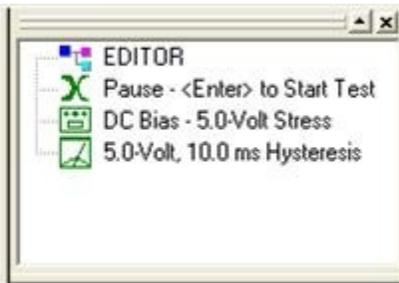
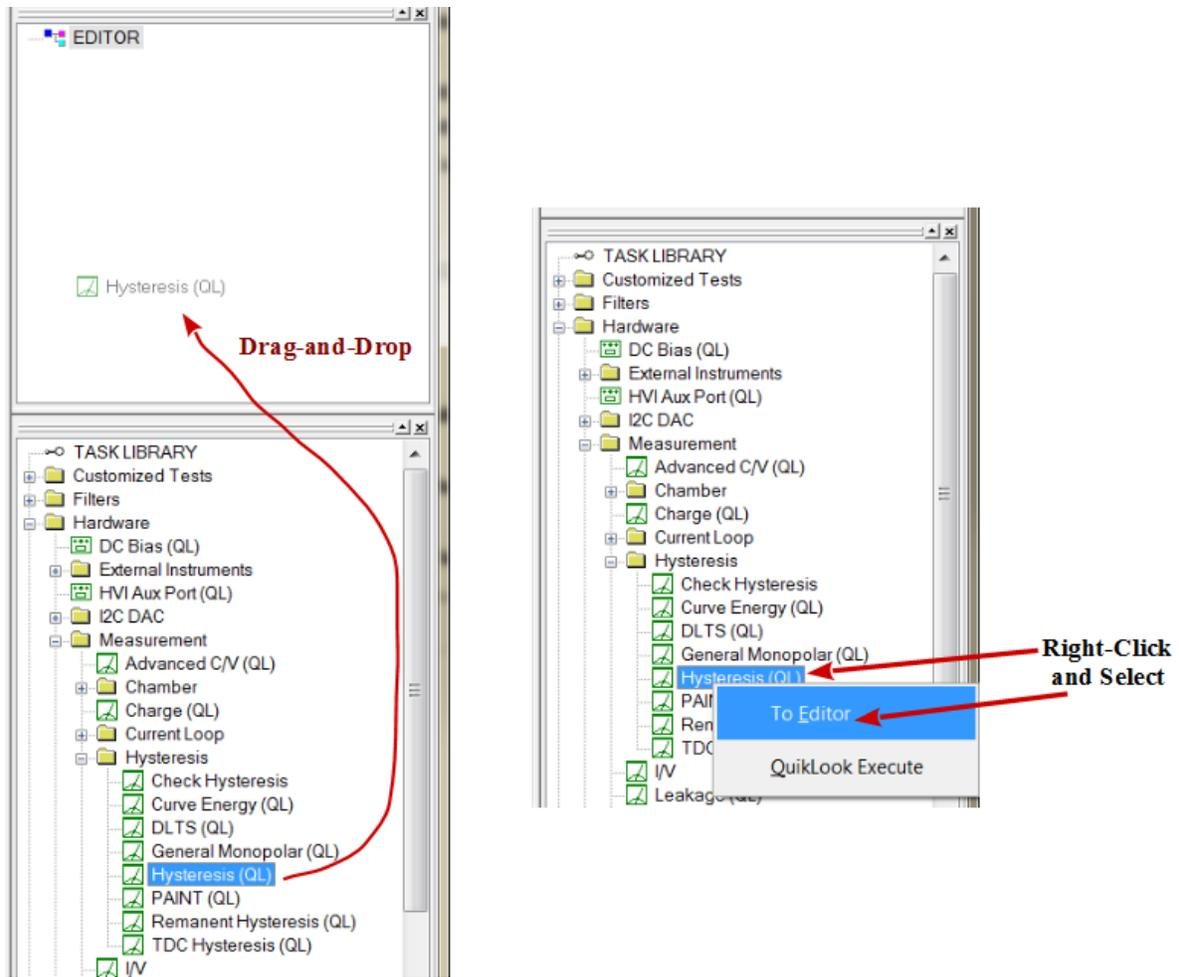

Figure 1 – EDITOR Window with a Partially Constructed Experiment or Test Definition Consisting of a Pause Task, a DC Bias Task and a Hysteresis Task.
Figure 2 – Task from Library to EDITOR.
By default, the EDITOR window (**Figure 1**) is located at the upper right of the Vision program screen. When the program starts, this window will be empty if the " Tools->Reload Editor Test Definition on Startup" menu option is unchecked. Otherwise, any Test Definition in the EDITOR when the program was last closed will be reloaded. The EDITOR is closely linked with the Library window. A Test Definition is constructed by moving Tasks from the Library into the EDITOR Window in the order that they are to appear in the experiment. A Task is inserted by selecting it in the Library with the left mouse button. It is dragged to the EDITOR by moving the mouse into the EDITOR window with the left button continuously held down. (This is known as Drag-and-Drop and is familiar to users of the Windows Explorer (**Figure 2**)). When the cursor is in the EDITOR window and the mouse button is released, the configuration dialog for the Task will appear (**Figure 3**). Note that the Task has not yet been added to the Test Definition and if the configuration dialog is *Canceled*, the Task will not be added to the EDITOR window. The Task may also be moved into the EDITOR by right-clicking it in the TASK LIBRARY and selecting "To Editor" from the popup menu. (Note that QuikLook Tasks are indicated by " (QL)" in the Task Library. QuikLook configuration and execution may be initiated by double-clicking the Task in the Library, or by right-clicking and selecting "QuikLook Execute".)
To the left of the Vision program screen (by default) is a window labeled “Explorer” (**Figure 1**). Initially empty, as new DataSets are registered into the program, this window will list the registered DataSets. (Current installations should show the sample tutorial DataSets registered in this window.) DataSets may be placed anywhere on the Vision host hard disk. Their hard disk folder location will be represented by their location in the DataSet Explorer tree. Registered DataSets may be opened in any number in the Explorer. Each open DataSet will be accompanied by an additional tabbed window of the same name as the DataSet. Each open DataSet will also show a Log Window in the main user space (**Figure 1**). The Log Windows may be maximized or minimized. If the log window is closed, the DataSet will also be closed. A DataSet may be opened by selecting it in the Explorer and choosing the **File-> Open DataSet** menu option. When a new DataSet is created, it is automatically opened and registered. DataSets may be unregistered from the